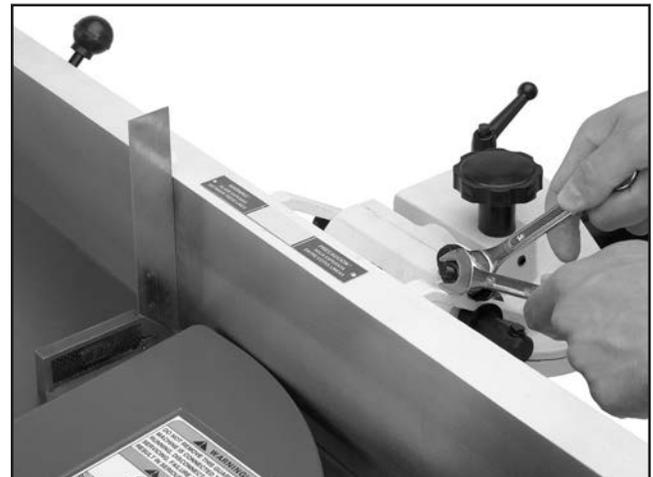

Figure 75. Adjusting fence to 90°.
2. Using a 90° square, adjust the fence to the 90° position in **Figure 75** using the fence stop bolt and jam nut.